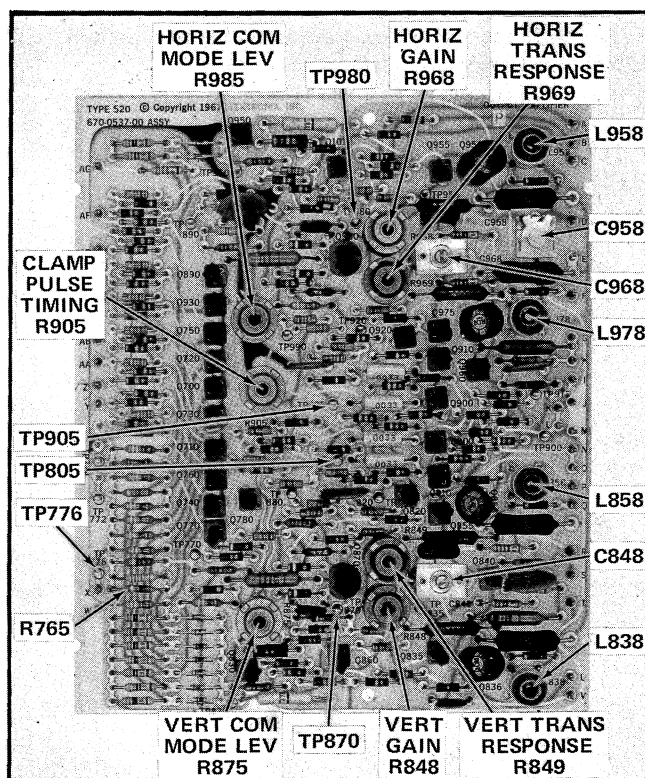
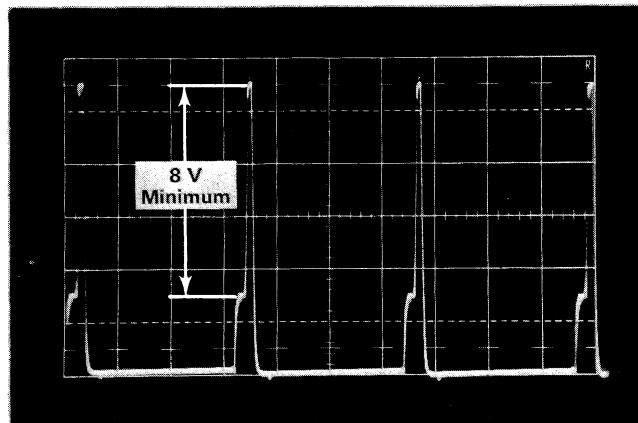

Fig. 6-8. Output amplifier board test point and adjustment locations.
Fig. 6-9. Superimposed channel 1 and 2 waveforms showing minimum amplitude requirement for vertical and horizontal amplifiers when adjusting clamp pulse timing.
e. Connect a DC voltmeter between ground and TP980 on the output amplifier board; see Fig. 6-8.
g. ADJUST—HORIZ COM MODE LEV control, R985 (see Fig. 6-8), until the voltmeter reading is exactly +5.6 volts.
h. Move the DC voltmeter connections to ground and TP870; see Fig. 6-8.
j. ADJUST—VERT COM MODE LEV control, R875 (see Fig. 6-8), until the voltmeter reading is exactly +5.6 volts.
d. Connect a 10X probe from the test oscilloscope channel 1 vertical input connector to TP805 on the output amplifier board; see Fig. 6-8.
e. Connect another 10X probe from the test oscilloscope channel 2 vertical input connector to TP905; see Fig. 6-8.
g. CHECK—Test oscilloscope display; superimposed channel 1 and 2 waveforms displayed for the vertical and horizontal amplifiers must meet or exceed the minimum amplitude shown in Fig. 6-9.
h. ADJUST—CLAMP PULSE TIMING control, R905 (see Fig. 6-8), until the alternately displayed waveforms on the test oscilloscope meet or exceed the minimum waveform amplitude shown in Fig. 6-9, but not so far as to cause waveform distortion.